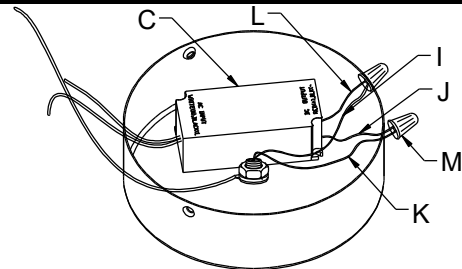

Fig. 3
## CONNECTING THE WIRES (Fig. 3)
8. Connect electrical wires as shown in Fig 3, making sure that all wire connectors are secured. If your junction box has a ground wire (green or bare copper), connect the fixture's ground wire to it. Otherwise, connect the fixture's ground wire directly to mounting plate (A) using the green screw provided.